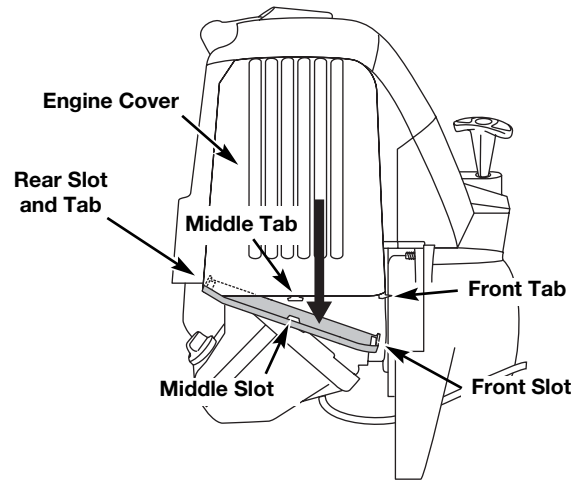

Fig. 30
1. Remove the muffler cover by pressing down on it, separating it from the engine cover. Using a flat blade screwdriver, disengage the middle and front tabs and slots first. The cover will hinge off from the rear tab (Fig. 30).